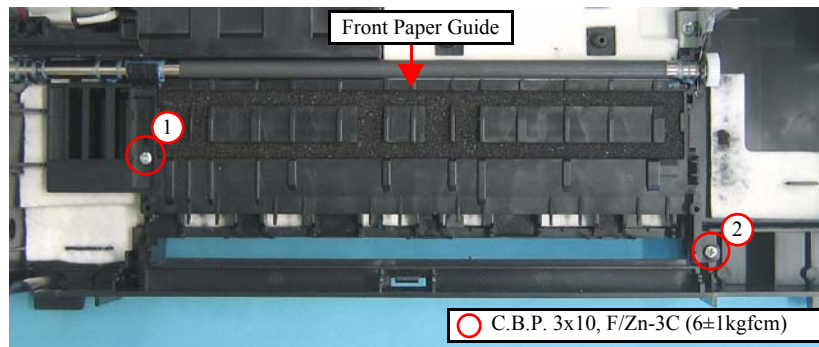

Figure 4-105. Removing the Front Paper Guide (1)
- Tighten the screws in the order given in Figure 4-105.